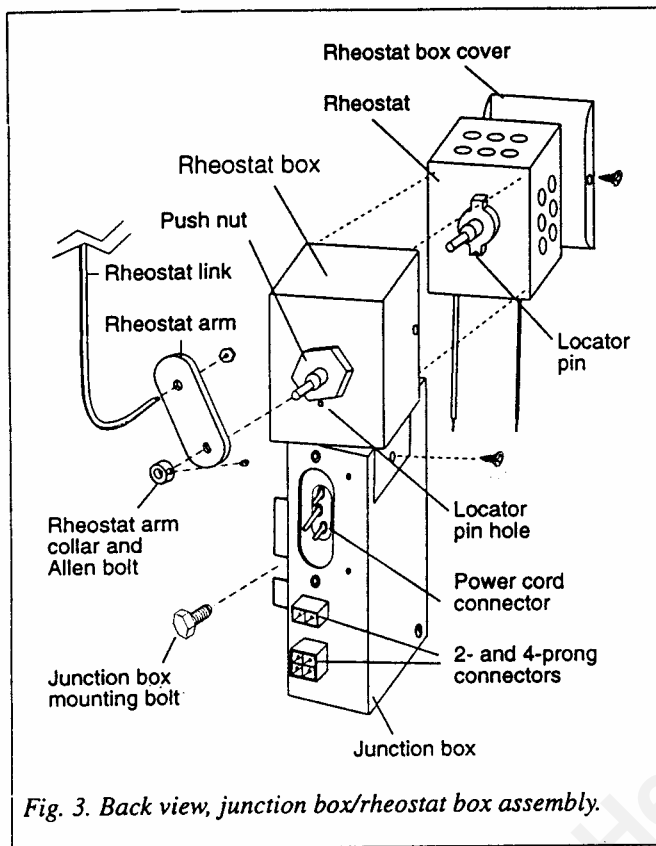

Fig. 3. Back view, junction box/rheostat box assembly.
3. (all units) Use a 3/32" Allen wrench to loosen the retaining collar on the rheostat shaft. Remove the collar and the arm. See Fig. 3.
4. (all units) Remove the push nut from the rheostat shaft. See Fig. 3.
5. (early units) Remove two sheet metal screws holding the rheostat cover to the rheostat box. Remove the cover. See Fig. 3.
1. Put the new rheostat into the rheostat box. NOTE THE POSITION OF THE RHEOSTAT; install it as shown in Fig. 3. Position the rheostat with the locator pin at the base of the shaft toward the bottom of the rheostat box, so it engages the hole in the back side of the rheostat box. *Later units:* When putting the rheostat into the rheostat box, first pass the wires through the collar on the top of the junction box.